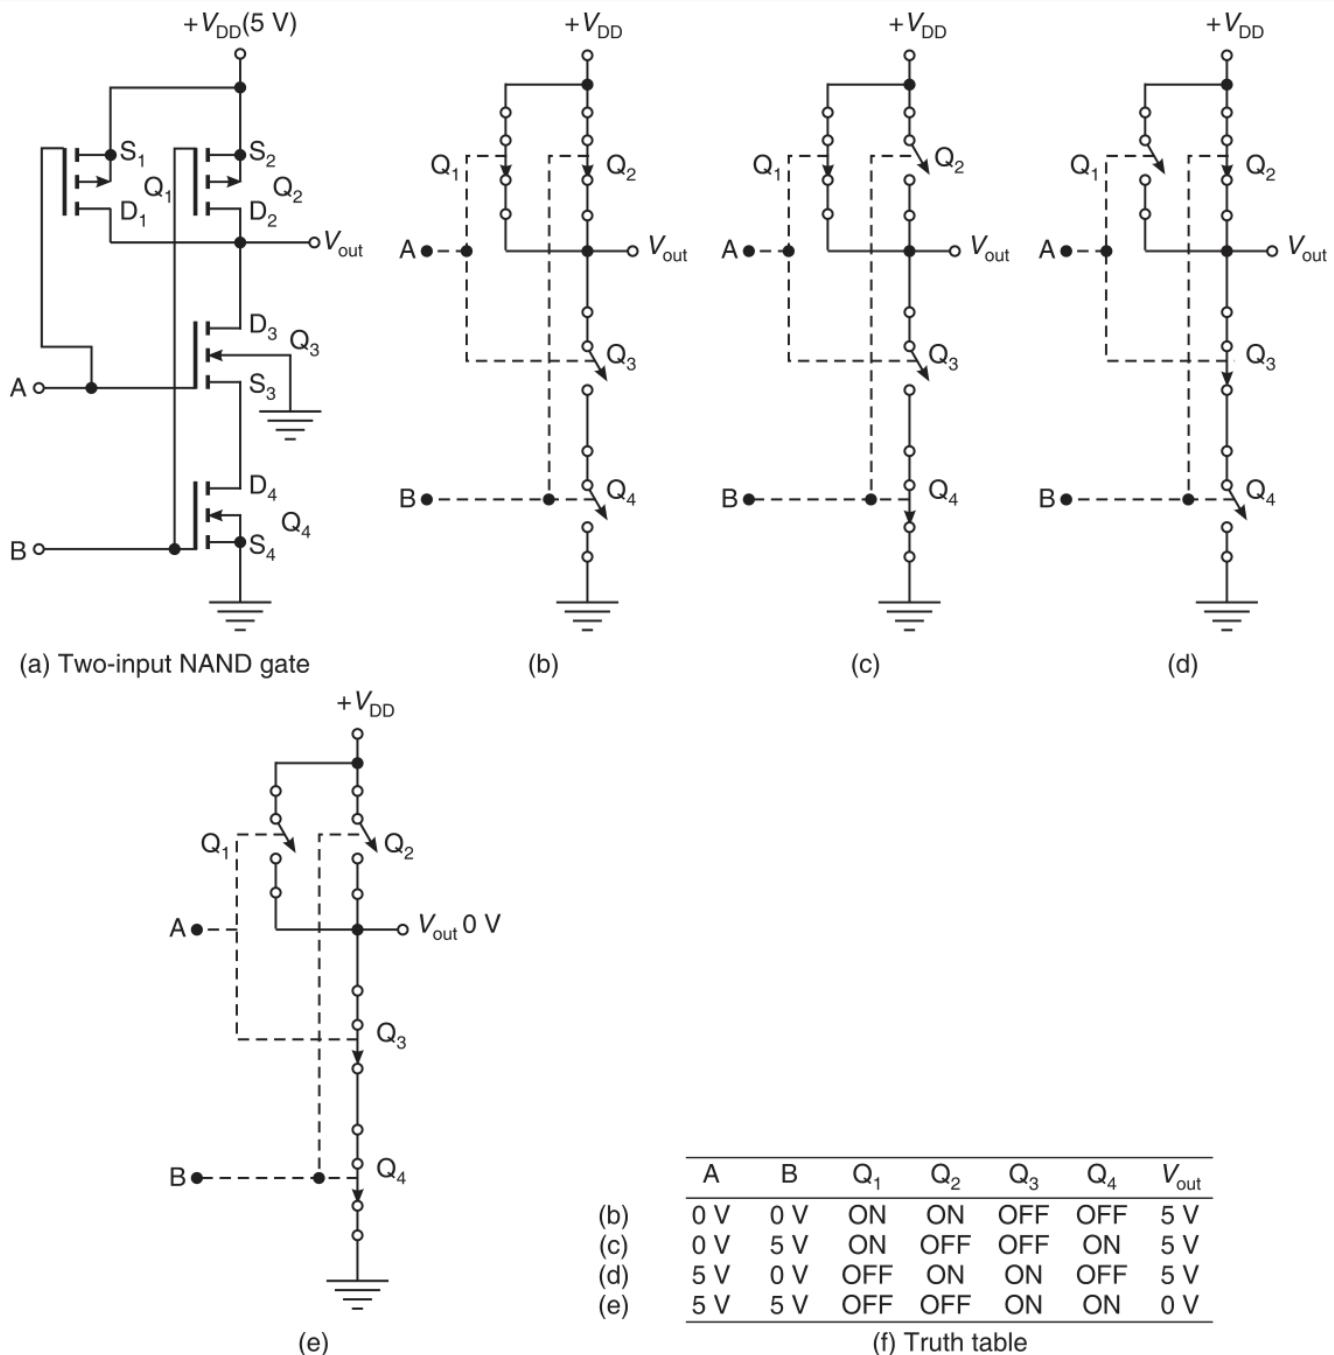

Figure 16.24 Circuit diagram and equivalent circuits for various inputs of the CMOS NAND gate.
2. The CMOS NAND Gate (Kumar, p. 922, Figure 16.24)